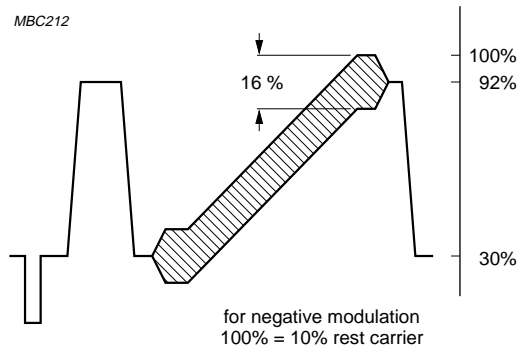

Fig.3 Video output signal.
9. Measured in accordance with the test line given in Fig.3. For the differential phase test the peak white setting is reduced to 87 %: